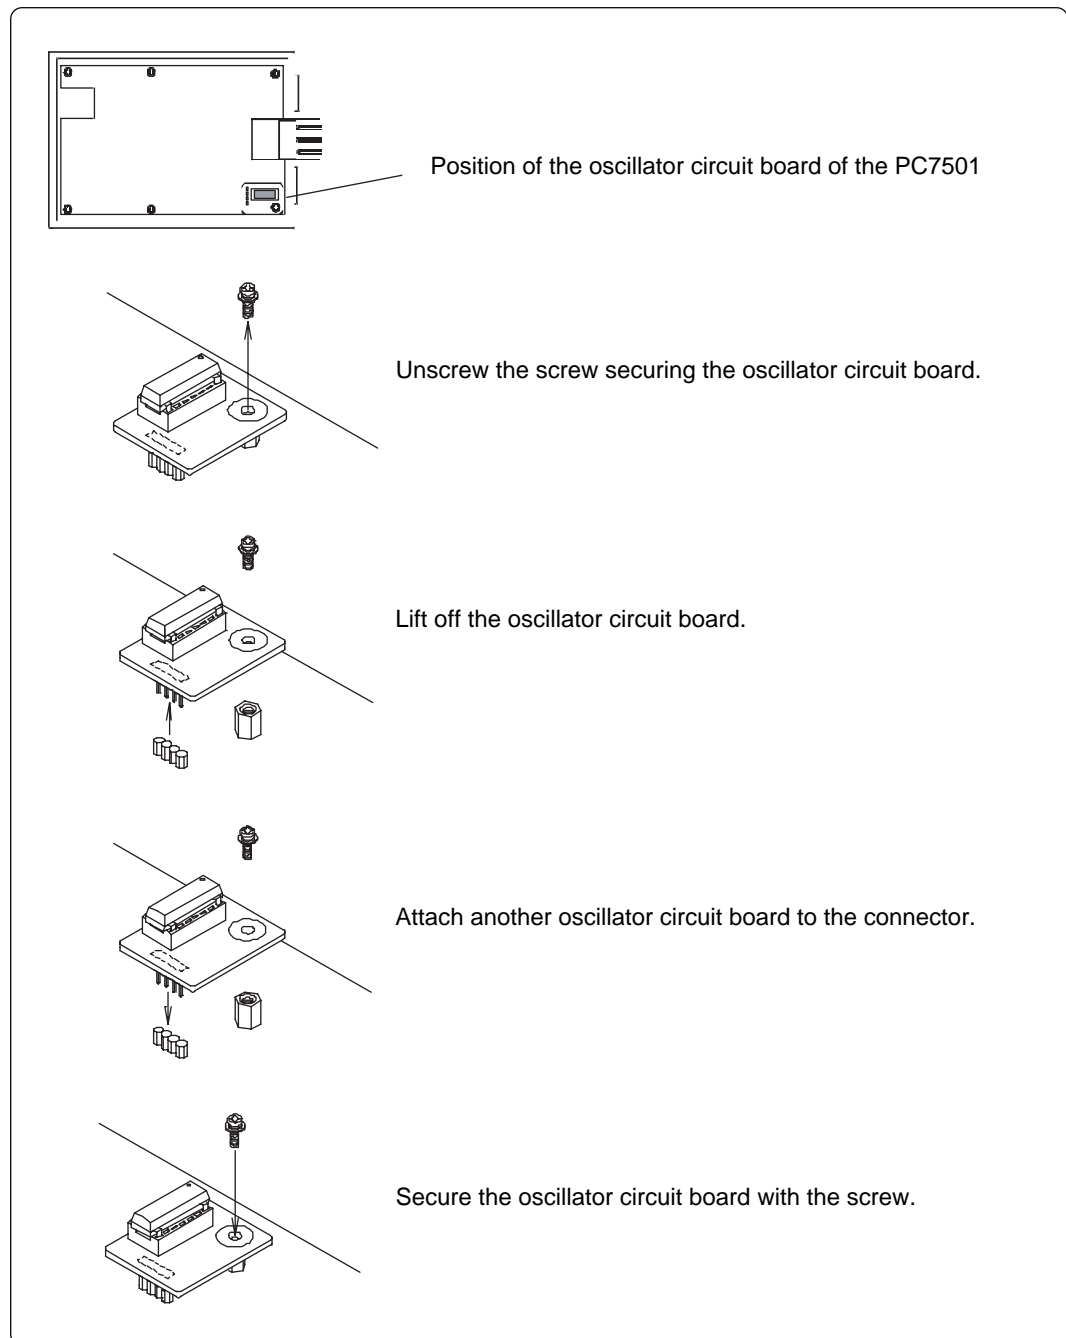

Figure 3.2 Replacing oscillator circuit boards
2. Unscrew the screw of the oscillator circuit board of the PC7501 and replace it (see Figure 3.2).